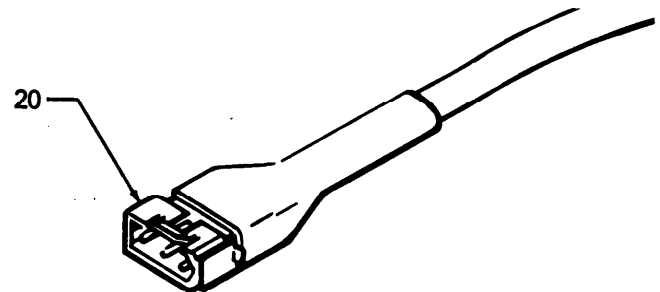

Fig 4
- (1) Use an ohmmeter to check the electrical resistance of the two outer prongs of the connector (20) which attaches to the heated hose control cable (23). Refer to Fig 4. The resistance for the various lengths of coupled hose assemblies is given in the chart below.